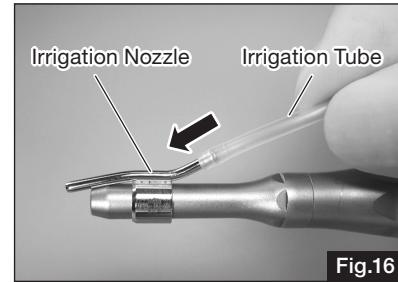

Fig.16
- Mount an Irrigation Nozzle for the Attachment onto the other end of the Irrigation Tube (Fig. 16).